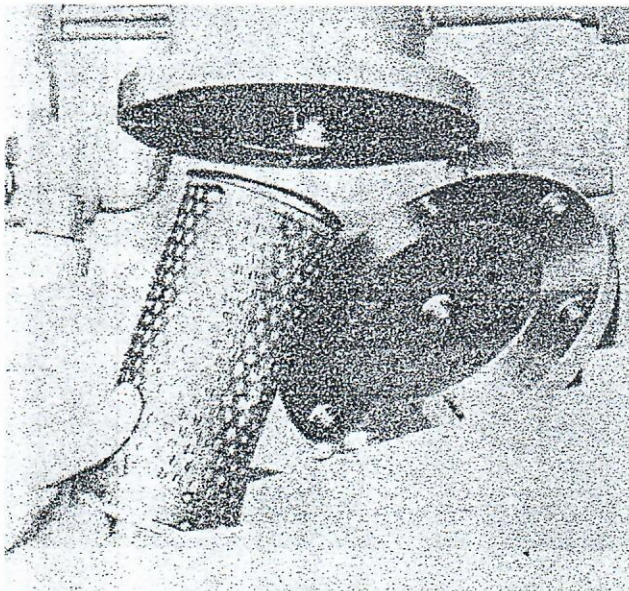

Fig. 15. Filter SIL 5
- f) If filters SIL 5 and SIL 7 form part of the system, clean them in the same way (Figs. 15 and 16). Fit new gaskets when replacing the covers.